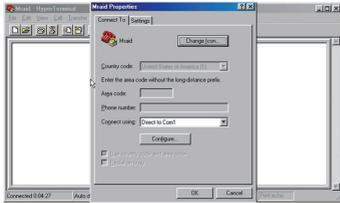

Figure 3.2-7
**Step 7.** Configure the "Connect To" setting. (Figure 3.2-7)